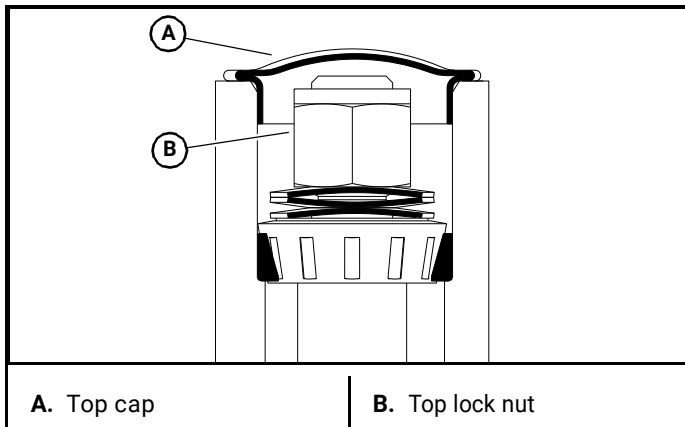

Figure 4-21
- Remove the top cap and the top lock nut. Figure 4-21